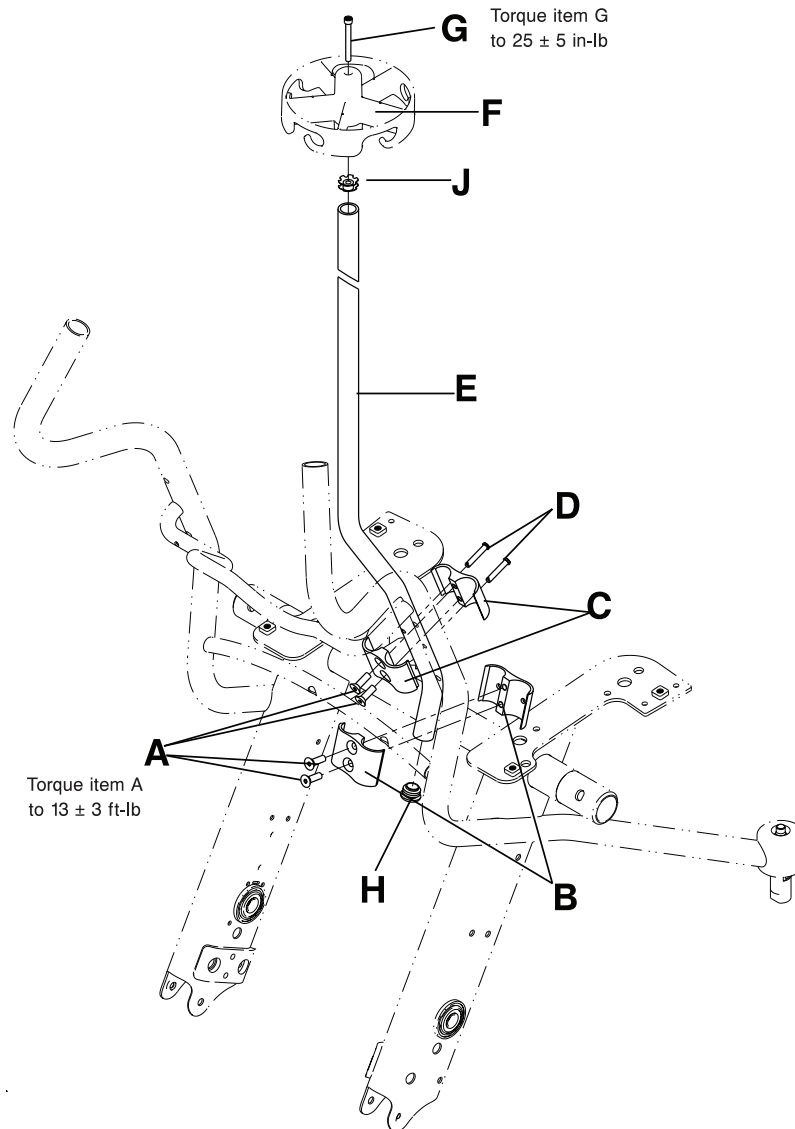

Figure 31: IV pole replacement
2. Using a 3/16" hex wrench, remove the socket head cap screw (G) from the center of the IV pole topper (F) (Figure 31 on page 50). Save the screw.
3. Tap and push up on the IV pole topper (F) (Figure 31 on page 50) to remove the topper. Save the IV pole topper.
4. Using a small slotted screwdriver, remove the tube plug (H) from the bottom of the IV pole (E) (Figure 31 on page 50). Save the tube plug.
5. Using a 3/16" hex wrench, remove the two flat head cap screws (A) to remove the lower IV pole clamps (B) from the chair frame (Figure 31 on page 50). Save the screws and clamps.
6. Using a 3/16" hex wrench, remove the two flat head cap screws (A) that secure the upper IV pole clamps (C) to the chair frame. Remove the clevis pins (D) and clamps (C). Save the screws, clevis pins, and clamps. Discard the IV pole (E) (Figure 31 on page 50).
2. Insert the supplied umbrella nut (0018-045-000) (J) into the top of the IV pole (E) (Figure 31 on page 50). The top of the umbrella nut should be about 1/2" from the top of the IV pole.
3. Insert the supplied tube plug (0037-225-000) (H) into the bottom of the IV pole (E) (Figure 31 on page 50).
4. Position the IV pole topper (F) on the IV pole (E) and use the palm of your hand to tap the topper until the topper is seated on the IV pole (E) (Figure 31 on page 50).
5. Using a 3/16" hex wrench, install the supplied socket head cap screw (0004-672-000) (G) to secure the IV pole topper to the pole. Using a 3/8" drive torque wrench (in-lb), torque the screw to 25 ± 5 in-lb.
7. Insert the supplied clevis pins (0026-349-000) (D) into the front of the supplied upper IV clamp (removed in step 6).